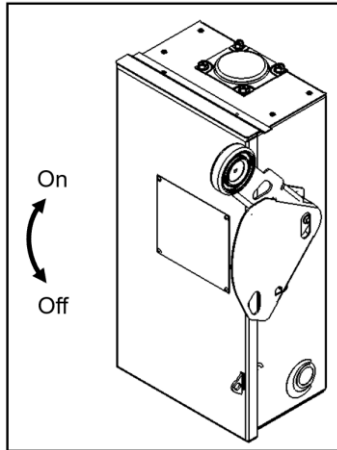

Figure 7-4. Fused Electrical Disconnect In ON Position.
12. Apply electrical power to the pump station by setting the Fused Electrical Disconnect on the pump station to ON. The handle must be in the up position. See Figure 7-4.